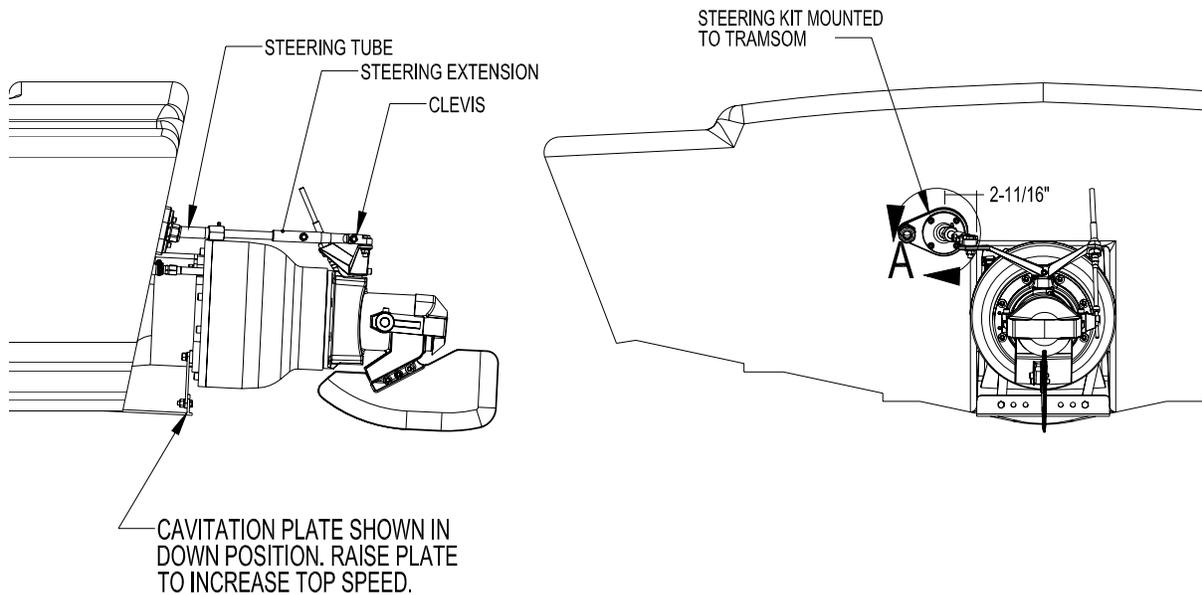

FIG 11
1. Using the paper template provided (Hole Template 1), tape the template to the hull using the dimensions provided. You will need a 1-1/2" hole saw, 1" hole saw and 3/8" drill bit. FIG 11
52. Install the steering cable into the steering tube, tighten the nut so that you cannot move the steering cable conduit (outer plastic covering) back and forth. FIG 11
53. Install the steering extension onto the steering cable fasten with the 3/8-24 bolt and locknut torque to 20 ft/lbs. FIG 11
54. Center the steering wheel, remove the four screws that bolt the retaining plate to the bezel. Screw the white plastic ball in or out until the steering nozzle is pointing straight back. Re-attach the retaining plate torque to 5 ft/lbs. FIG 11